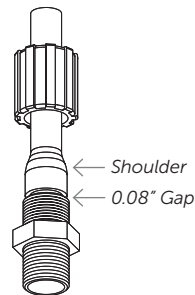

Figure 3.
1. Push the flared tubing end onto the Flaretek fitting body until the end of the fitting body contacts the flare shoulder of the tube (see Figure 3). The maximum gap between the tube end and fitting shoulder should be approximately 0.08"